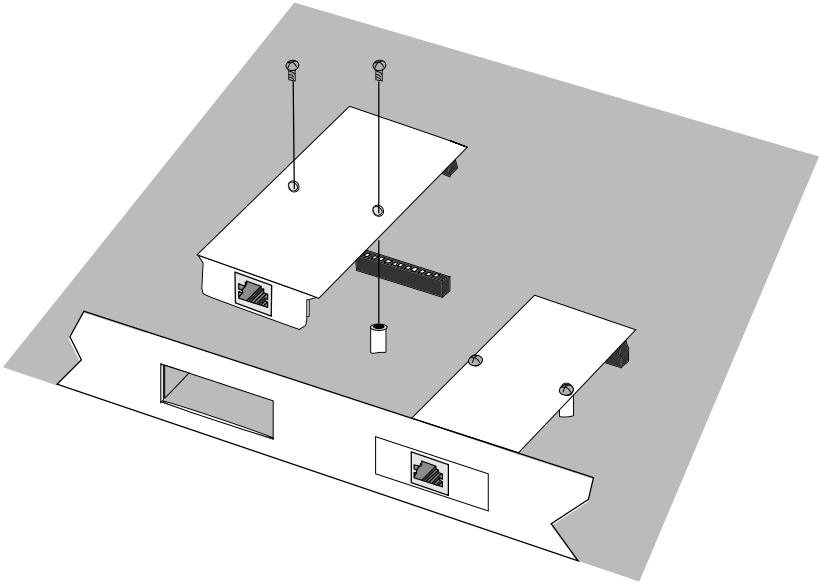

Figure 3-1. Installing an FPIM
3. Install the FPIM as shown in Figure 3-1. Ensure that the rear connector is seated firmly before tightening the two mounting screws.